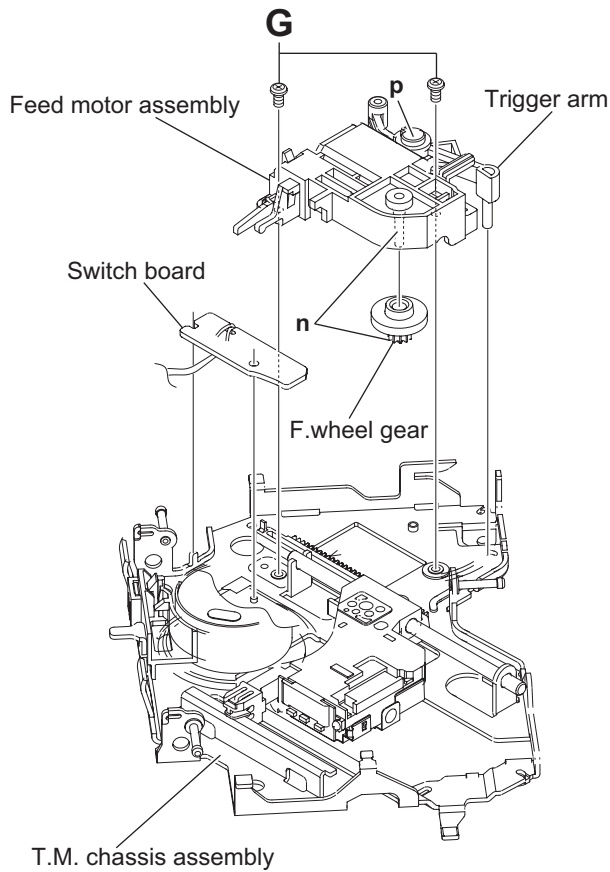

Fig.18
### 3.2.10 Removing the feed motor (See Fig.18 and 19)
- From the bottom side of the T.M chassis assembly, remove the two screws **G** attaching the feed motor assembly. (See Fig.18.)
When attaching the f. wheel gear, trigger arm and feed motor, apply grease to the sections (**n**, **p** and **q**). (See Fig.18 and 19.)
### 3.2.11 Removing the SWITCH BOARD assembly (See Fig.18)